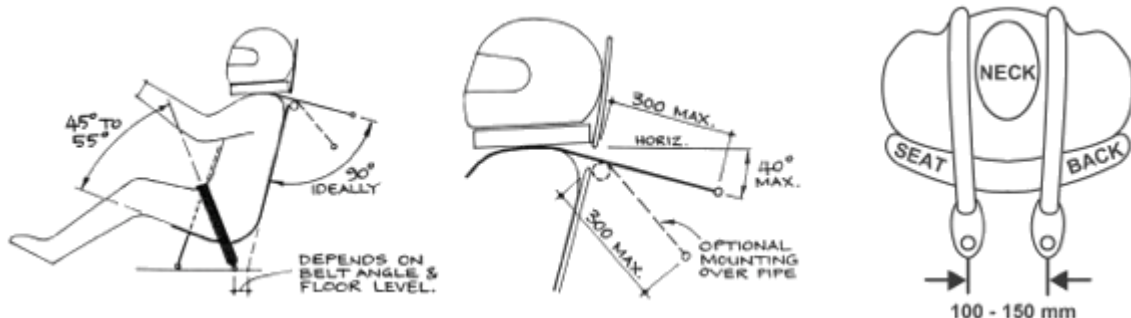

Fig. 1
Shoulder belt mounting points shall be positioned to the rear and below the point, at which the shoulder belts come through the seat and be not more than 300mm from that point, attached to 38x3mm CHS or 38x2.6mm CHS (CDS). See Fig 1
1. If using a **non SFI/FIA approved proprietary** manufactured full competition/containment style seat which is constructed of aluminium. Refer to Seat Fig 1.
Seat Fig 1